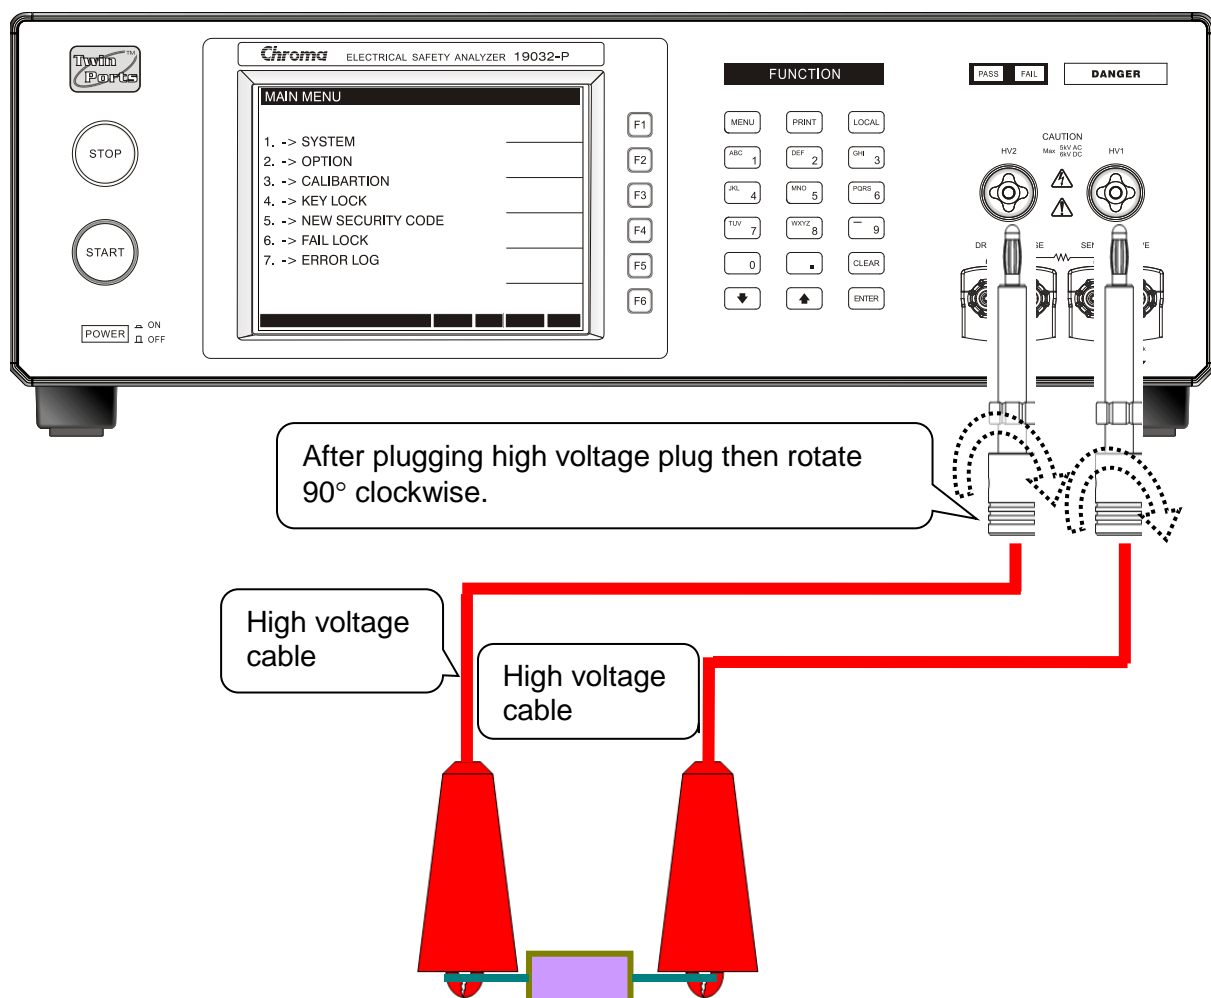

Figure 4-4
**Note** | The connection method of test cable is the same as *Figure 4-4*.